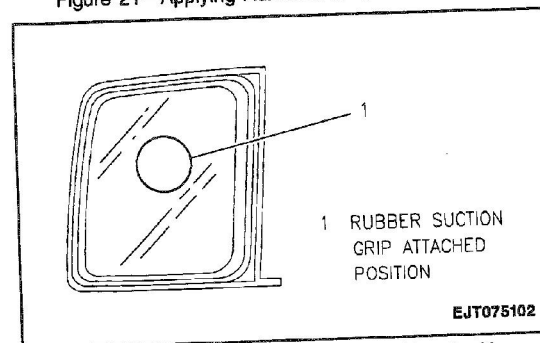

Figure 22—Rubber Suction Grip Attaching Position
5. Using rubber suction cups, install the quarter window, aligning mating marks (Figures 22 and 23).